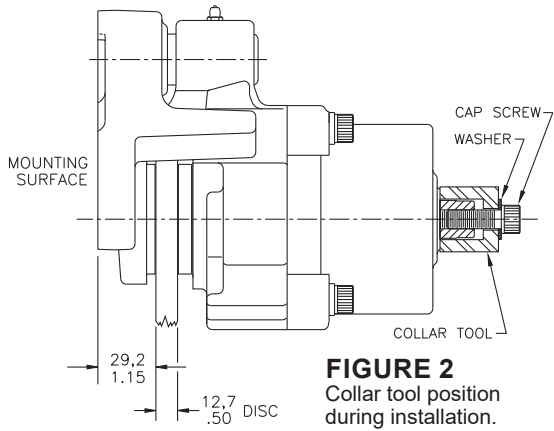

FIGURE 2
- Figure 2 on page 2 illustrates the method of mounting this brake. The mounting surface to disc face dimension should be closely held as this provides for the required caliper movement. Use shims as needed to obtain the proper distance.
- Figure 2 on page 2 illustrates the position of the collar tool while the brake is being installed. The collar tool holds the brake linings apart so the brake can slide easily on the disc. The collar tool is not to be used to release the brake. It is only used to hold the brake in the release position.